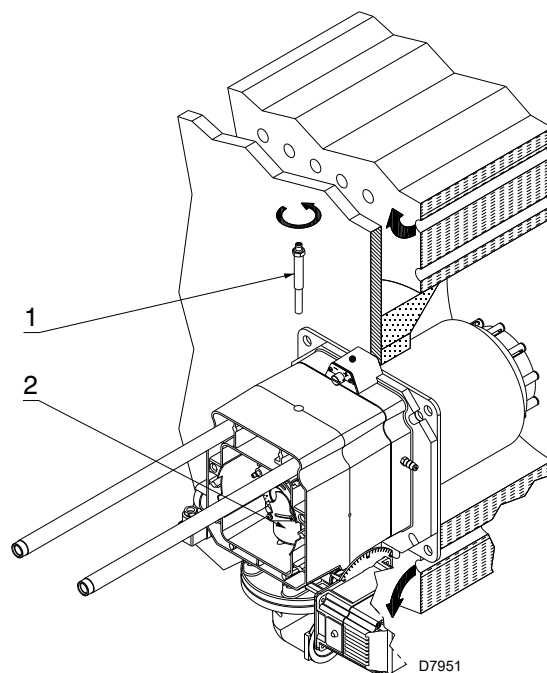

Fig. 14
- remove the screw 1)(Fig. 14)
- extract the inner part 2)(Fig. 14) of the head, and adjust them.
At this point of the installation, the combustion head is fixed to the boiler as shown in Fig. 14.